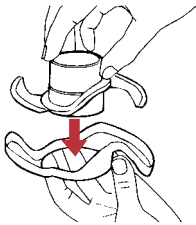

Fig 7
2. Remove the protective cover from the stainless steel processing blade, see Figure 7.